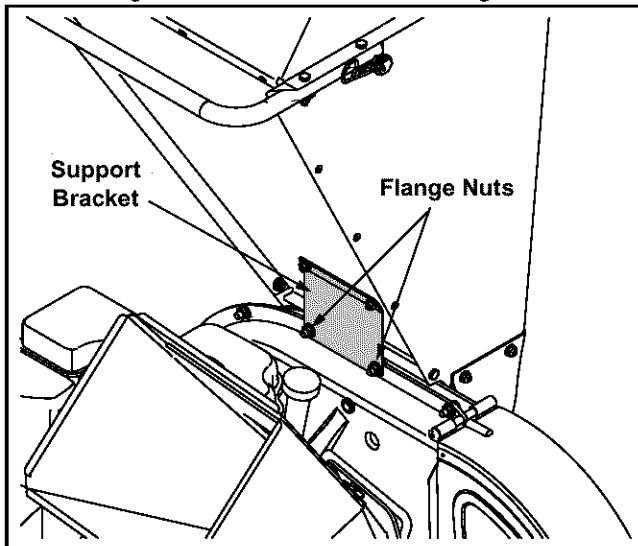

Figure 19
- Remove the two flange nuts (and hex bolts) which secure the hopper support bracket to the impeller housing. Retain the hardware. See Figure 19.